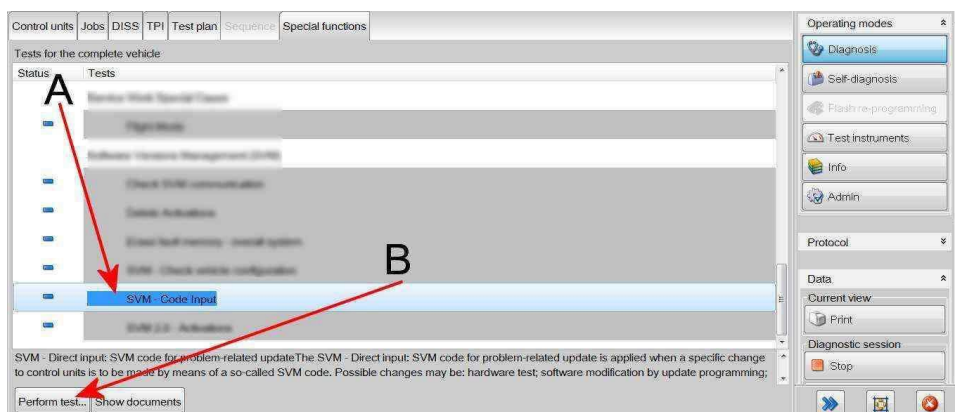

Figure 1
- Referring to Figure 1 - Within the Special functions tab - Select SVM - Code Input (Point A)